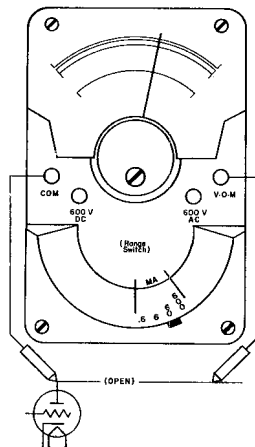

FIGURE 6. DC Current
**3.04** The four DC current ranges are 0-.6, 0-6, 0-60, and 0-600 milliamperes. All four ranges are read on the 0-60 DC scale as follows (see Figure 6):